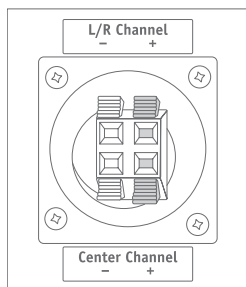

Figure 1
2. If the cabinet is installed in a vertical position, the terminal cup will need to be on the top (see figure 1).